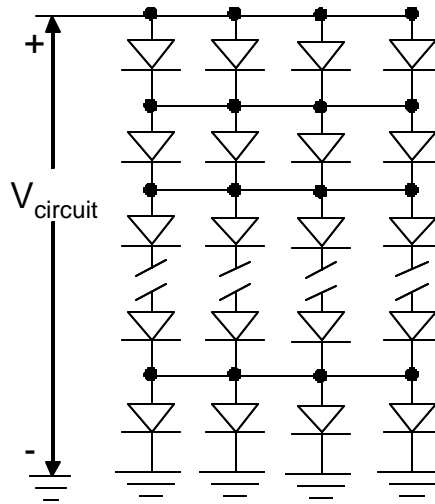
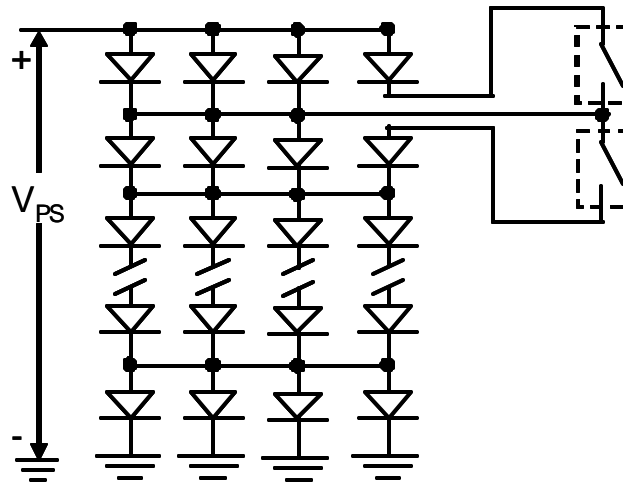

Figure 24. LED circuit configuration for WPS#2 signal
Figure 25. WPS#2 signal configured for open-circuiting
Figure 24 shows the configuration of the elements in a twelve inch signal supplied by Safetran that uses a power supply to regulate the voltage and current applied to the LEDs. This signal will be referred to as WPS#2 (“with power supply”) in this report. The WPS#2 signal uses 192 elements in 49 sets of four LEDs. Note that the LEDs are arranged in both series and parallel to minimize the effect of losing a single element. Figure 25 shows the modification to the WPS#2 signal that allows a single LED in a set of four elements to be
2. the combined series and parallel arrangement of LEDs (shown in Figure 24).